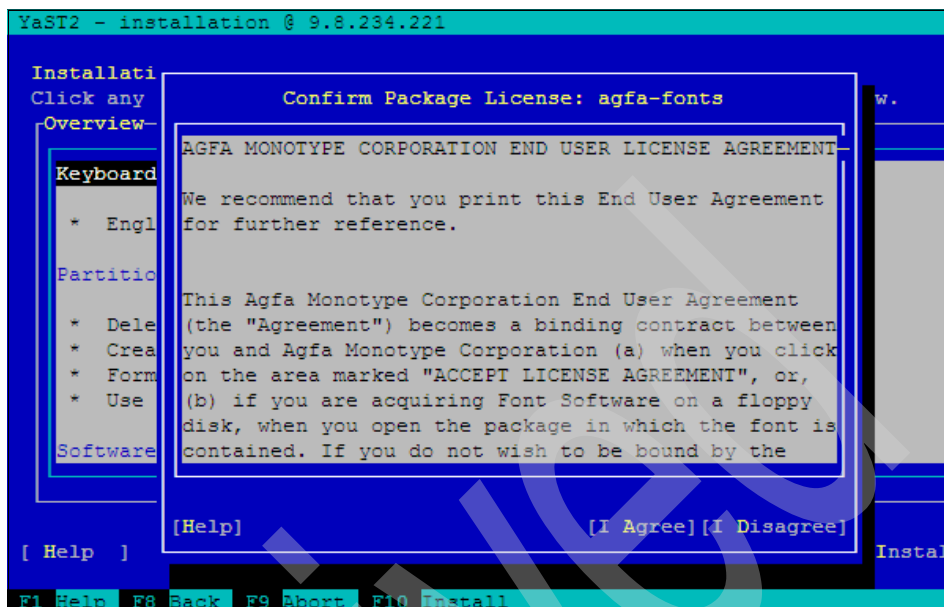

Figure 9-21 AGFA License Agreement
15. If you accept the terms, select **[I Agree]** to the AGFA Monotype Corporation License Agreement, as shown in Figure 9-21 on page 376.